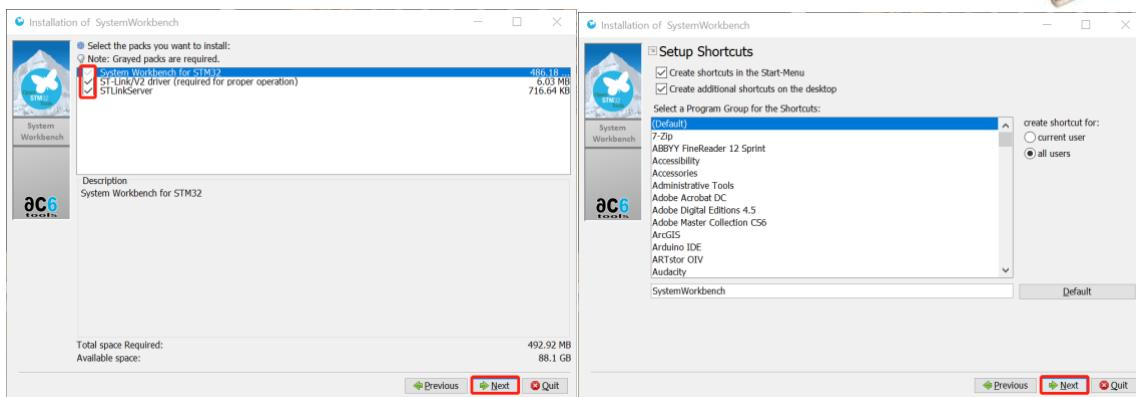

Figure 7: Install everything in the package
8. Make sure that all installation options have been checked and click next to continue. See Figure 7.